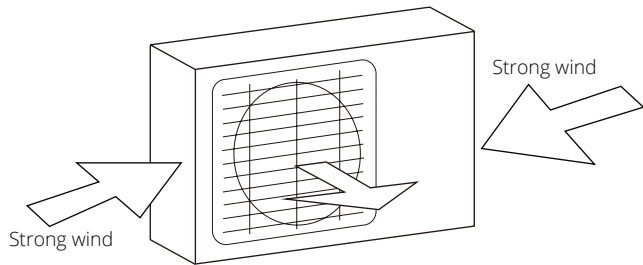
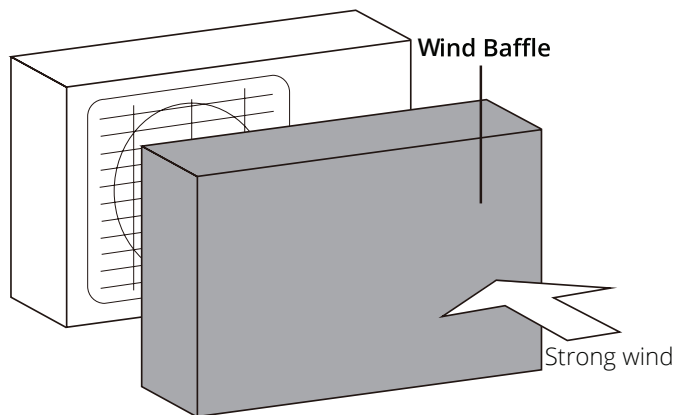

Fig. 6.2
Fig. 6.3
**If the unit is exposed to heavy wind:** Install unit so that air outlet fan is at a 90° angle to the direction of the wind. If needed, build a barrier in front of the unit to protect it from extremely heavy winds. Ensure the wind barrier does not block necessary air flow. See Fig. 6.2 and Fig. 6.3 below.